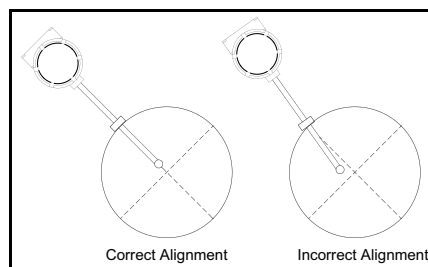

Figure 9: Connection Alignment
6. Weld the flowmeter pipe connection on the pipe. Make sure this connection is within $\pm 5^\circ$ perpendicular to the pipe centerline (see *Figure 9* below).
2. Weld a two inch mounting adapter on the pipe. Make sure the mounting adapter is within $\pm 5^\circ$ perpendicular to the pipe centerline (see *Figure 9 on page 16*). The pipe opening must be at least 1.875 inches in diameter.